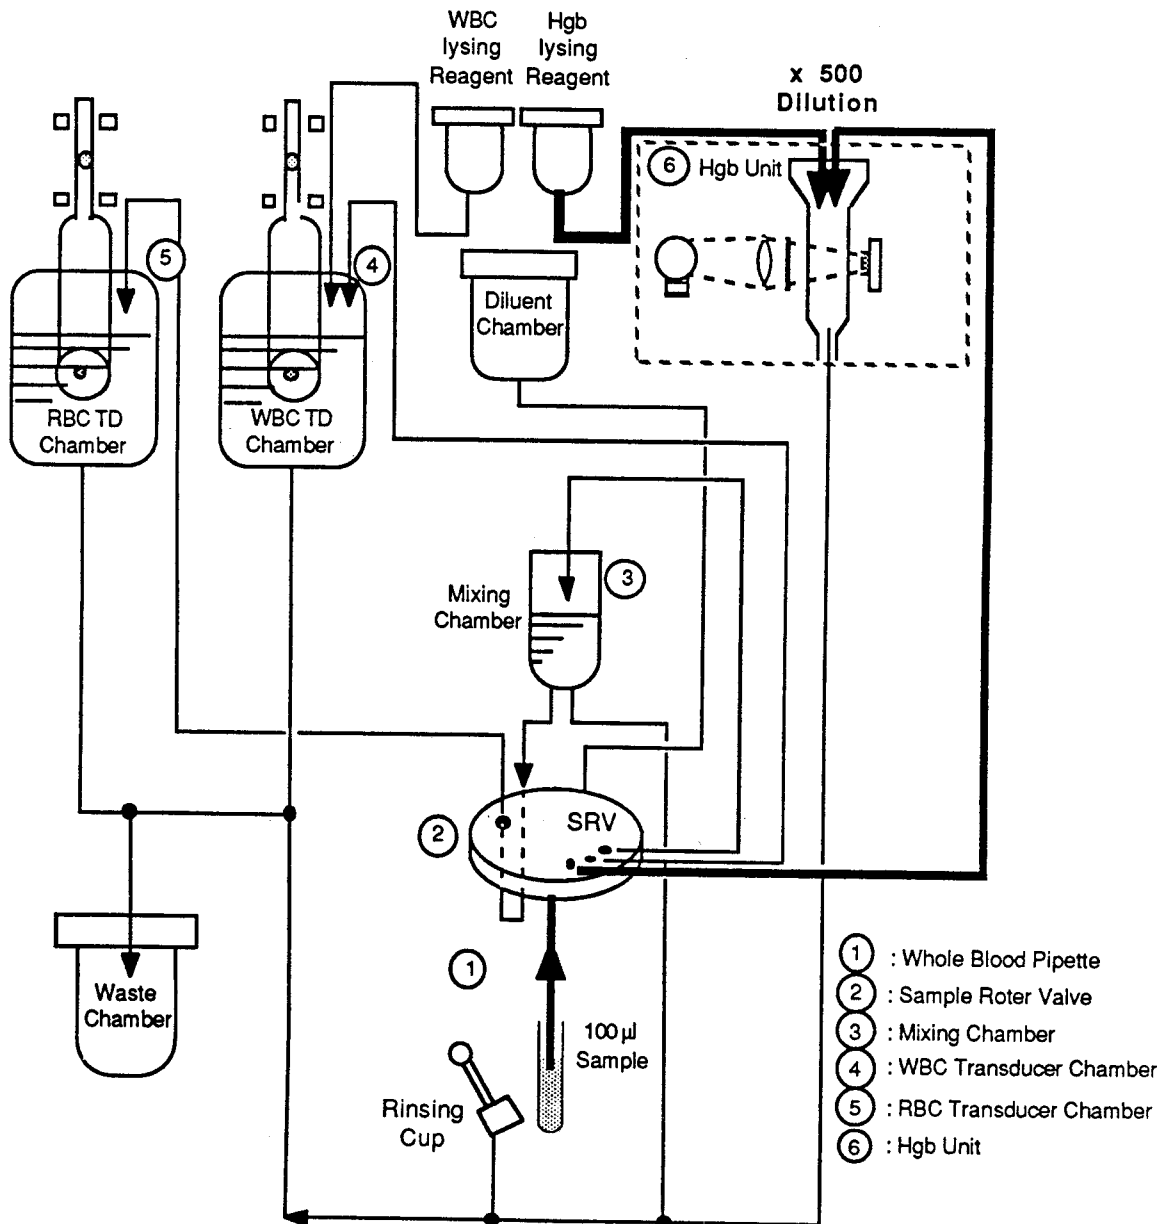

Figure 4-5 Sample Flow - Hgb
The Hgb sample flow system is illustrated by the bold lines in Figure 4-5. The 6 μL of the whole blood sample, measured by the Sample Rotor Valve (2), is diluted into 1:500 by adding approximately 2 mL of diluent and 1 mL of Hgb lysing reagent in the Hgb Flow Cell (6). The intensity of color change produced by cyanmethemoglobin is measured as absorbance in the Hgb Flow Cell. This value is stored in memory as the Sample Data. During each operation, absorbance is measured when the Flow Cell is filled with the diluent before transferred the diluted sample into the Flow Cell. This value is stored in memory as the Blank Data.